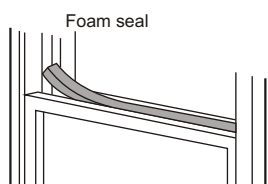

Fig.13
5. Cut the foam seal to an appropriate length and sealing the open gap between the top window sash and outer window sash. Shown as in Fig.13.